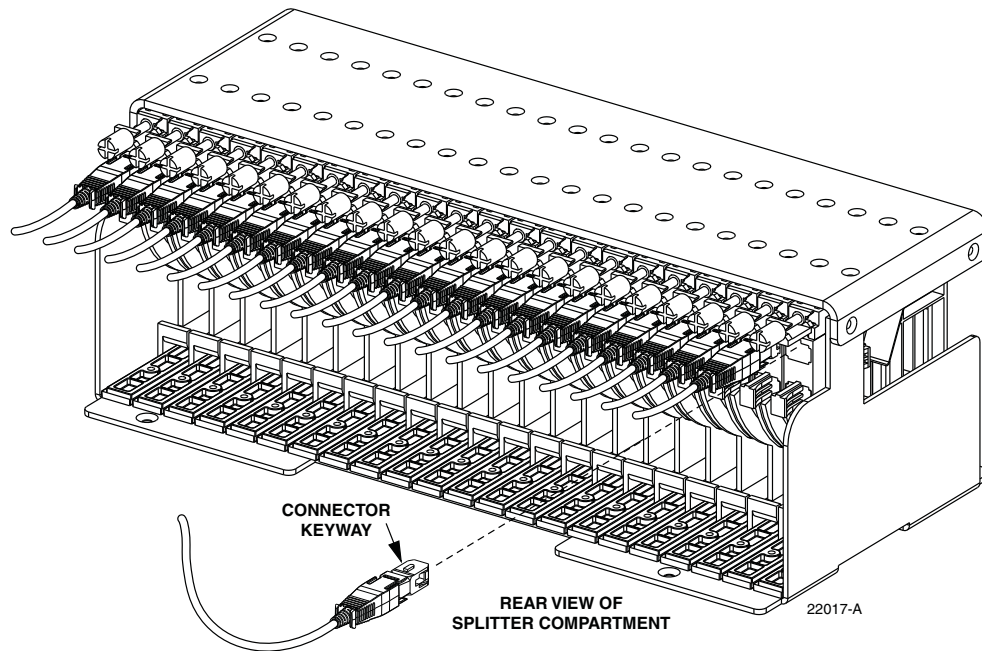

Figure 42. Feeder Cable Connector
4. Remove the corresponding feeder cable connector(s) from the rear of the splitter compartment as shown in Figure 42.
3. Remove the feeder cable connector(s) from the rear of the splitter compartment (see Figure 42).